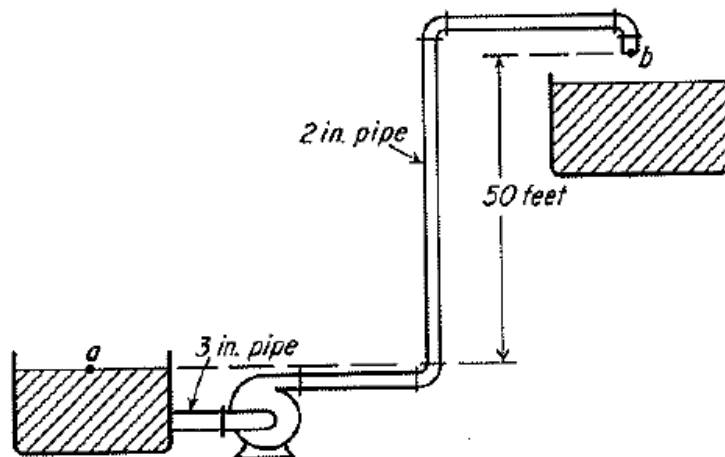

Figure 1 Flow diagram for Q. 1
**Q.1** In the equipment shown in Figure 1, a pump draws a solution of specific gravity 2.5 from a storage tank through a 3" Schedule 40 steel pipe. The efficiency of the pump is 80%. The velocity in the suction line is 0.7 m/s. The pump discharges through a 2" Schedule 40 pipe to an overhead tank. The end of the discharge pipe is 15.2 m above the level of the solution in the feed tank. Frictional losses in the entire piping system are 30 J/Kg. What pressure must the pump develop? What is the power delivered to the fluid by the pump? Make suitable assumptions. Take kinetic energy factor  $\alpha$  as 1. Refer to Table 1 & 2. [12]